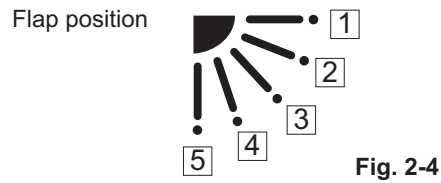

Fig. 2-4
- \* Setting data “**YYYY**” (refer to Fig.2-4)
When the flap position is set to **4** or **5** and the unit is in the cooling or dry mode, the flap position is moved to **3** and the operation is started. (refer to Fig.2-4)
At this time, the unselected flaps are moved to the position **1**. (refer to Fig.2-4)